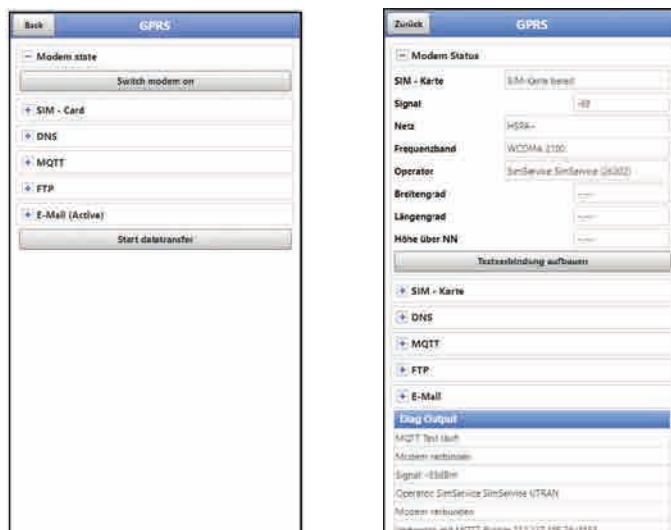

Fig. 41-3 Modem state / SIM-Card state
2. Wait until the device has found and entered the correct GPS coordinates (latitude/longitude) in the menu (see Fig. 41-3). This may take up to several minutes.